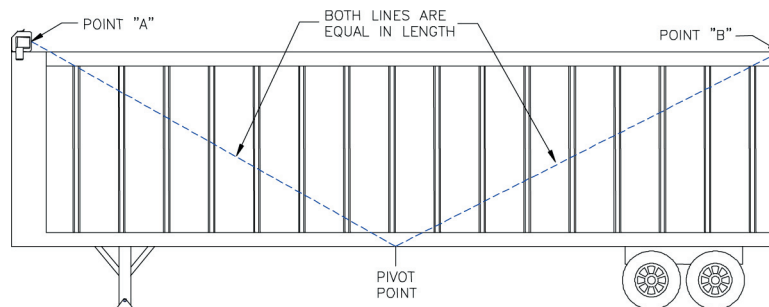

FIGURE 1
- 1) To find the pivot point, pull one tape measure from point "A" and a separate tape measure from point "B". Next cross the tape measures at the bottom-middle of the trailer body where the two measurements are equal – mark the spot beneath where they cross. This is your pivot point. (See Figure 1, below)
- 2) Use the underbody spring assembly as a guide to determine the hole position for mounting. Ensure the center of the mounting plate is aligned with the pivot point as shown in figure 1. Drill two 9/16" holes in line with the holes in the pivot mount.